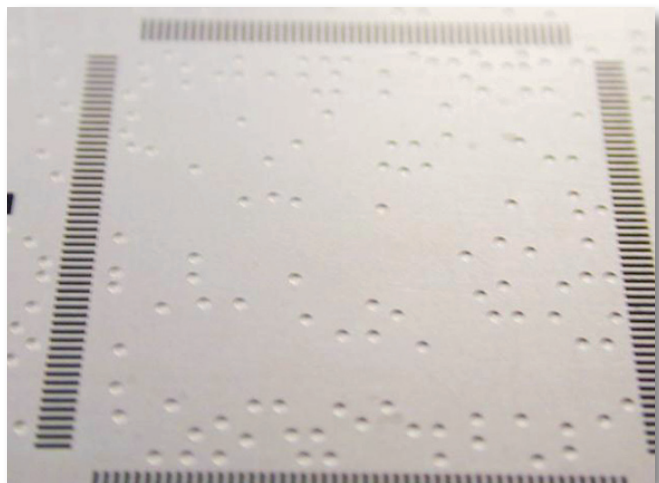

Figure 4: Raised via pad relief step stencil.
1. Raised via pads on the PCB. If a board has raised via pads, they will prevent the stencil from gasketing to the PCB. To achieve good stencil/board contact a relief pocket is etched on the contact side of the stencil wherever there is a raised via. Typically, the relief pocket depth is half of the stencil thickness, which is usually enough to clear the raised via. A picture of this stencil is seen in Figure 4.